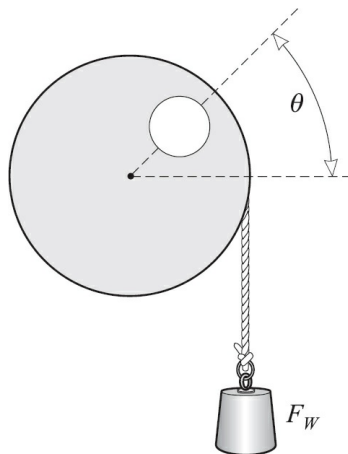

Fig. 5-26
5.37 [III] The solid uniform disk of radius b illustrated in Fig. 5-26 can turn freely on an axle through its center. A hole of diameter D is drilled through the disk; its center is a distance r from the axle. The weight of the material drilled out is F_{Wh} . (a) Find the weight F_W of an object hung from a string wound on the disk that will hold the disk in equilibrium in the position shown. (b) What would happen if the load F_W vanished? Explain your answer.